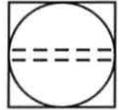

Figure 31. Instrument Tag
- 2. Determine the type of device indicated by the tag in figure 31.